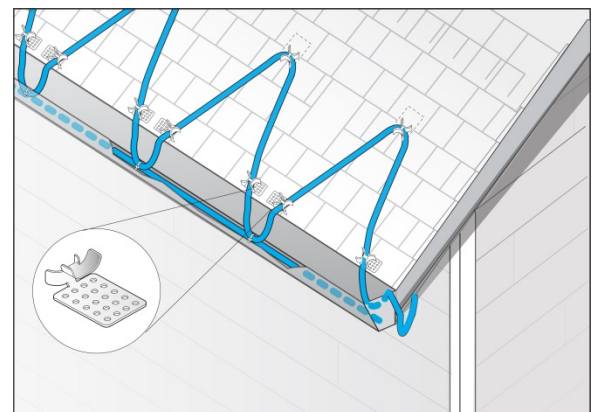

Figure 11: Roof Clip, Standard Shake Roof
4. Use SRK13 roof clips to route heating cable up and down the edge of the roof according to the tracing height noted in the tables above and shown in Figures 11 and 12. Route the heating cable in such a way as to prevent abrasion to the cable jacket.